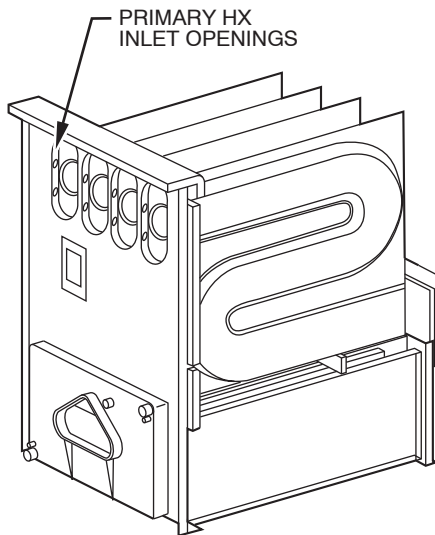

Fig. 8 - Cleaning Inlet Openings of Primary Heat Exchangers
11. Clean heat exchanger openings with a vacuum and a soft brush. (See Fig. 8.)